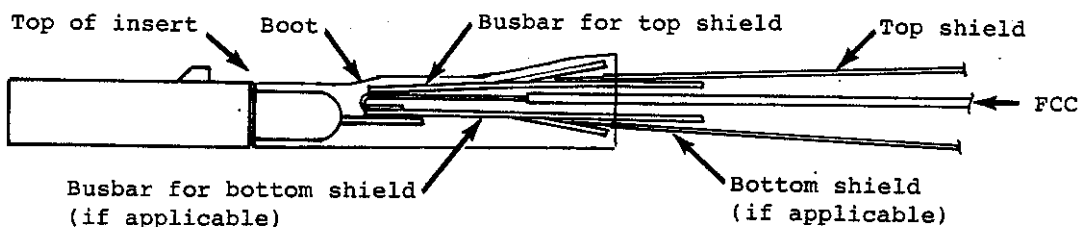

Figure 8-10. Busbar and Shield on Top of FCC (Where Applicable)
5. If there is to be a shield on top of the FCC, load the top busbar and shield together into the boot of the MTC50 insert as illustrated in Figure 8-10.